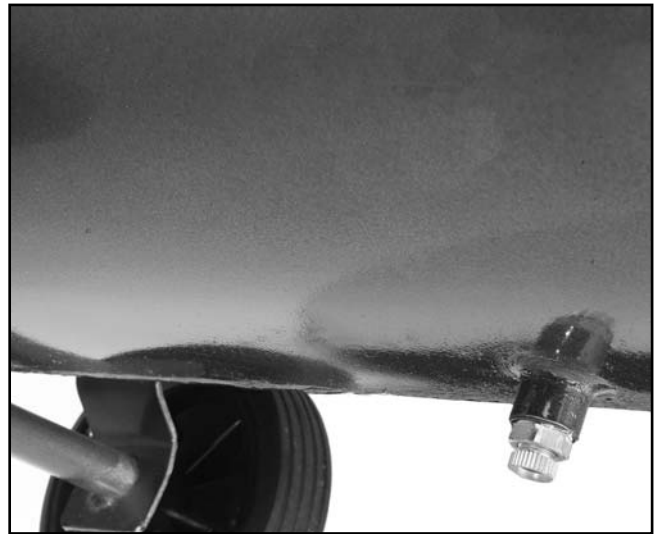

Fig 6. Typical location of drain cocks.
2. Drain tanks of any condensation by opening the drain cocks on the bottom of both tanks. **See Figure 6.** Depending upon the amount of use and the weather conditions, a certain amount of condensed water may be released. For longevity of the compressor seals and the air tools you connect, it is best to keep the tanks free of water. The tanks are best drained if the drain cocks are opened when the system is pressurized. Once water has stopped coming out, you can close the drain cocks.